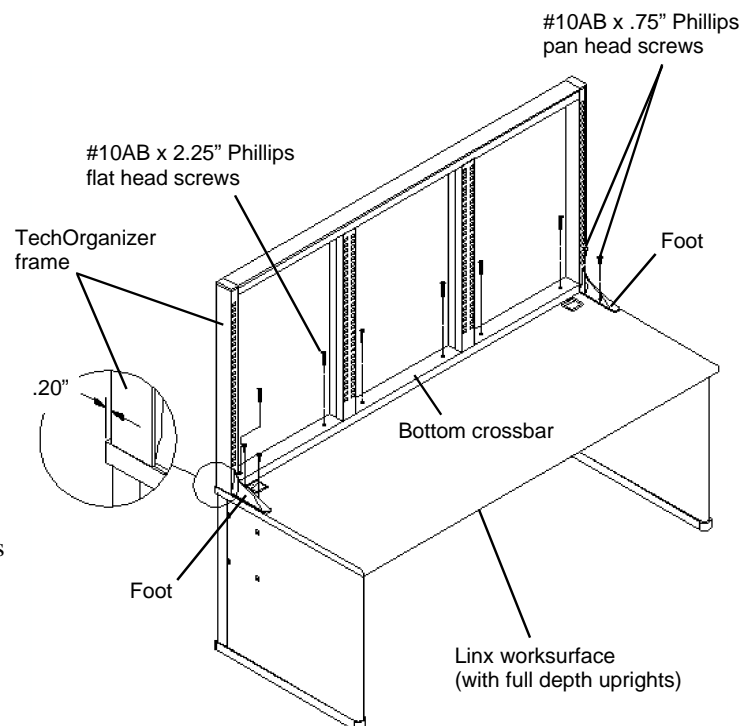

Figure 1
1. Position the TechOrganizer in the desired location on the back of the Worksurface. On a Linx Worksurface, locate the back of the frame .20" from the back edge of the Worksurface. See **Figure 1**.
2. Using the holes in the frame bottom crossbar and the holes in the feet as a template, locate and drill the appropriate quantity of .113 dia. holes .50" deep in the Worksurface. See **Figure 1**.
3. Attach the frame bottom crossbar to the worksurface using the #10AB x 2.25" Phillips head flat head screws (provided). See **Figure 1**.
4. Attach the feet to the Worksurface using the four #10AB x .75 Phillips pan head screws (provided). See **Figure 1**.